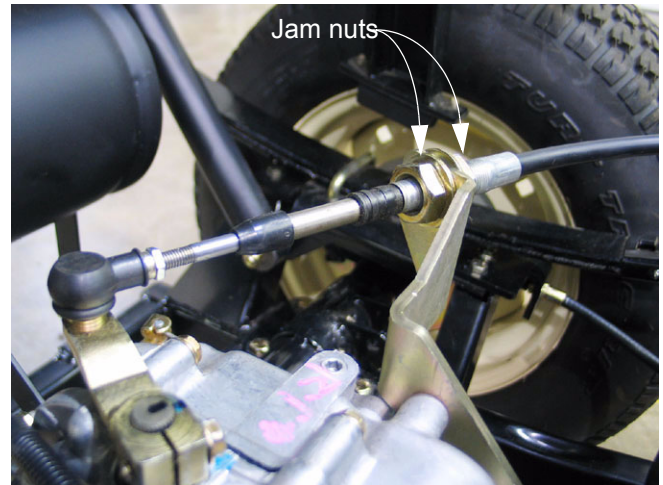

Figure 4.17
- 4.17. Use a pair of 7/8" wrenches to remove the end jam nut on the threaded end of the cable housing. The cable core will pass through a slot in the bracket. See Figure 4.17.